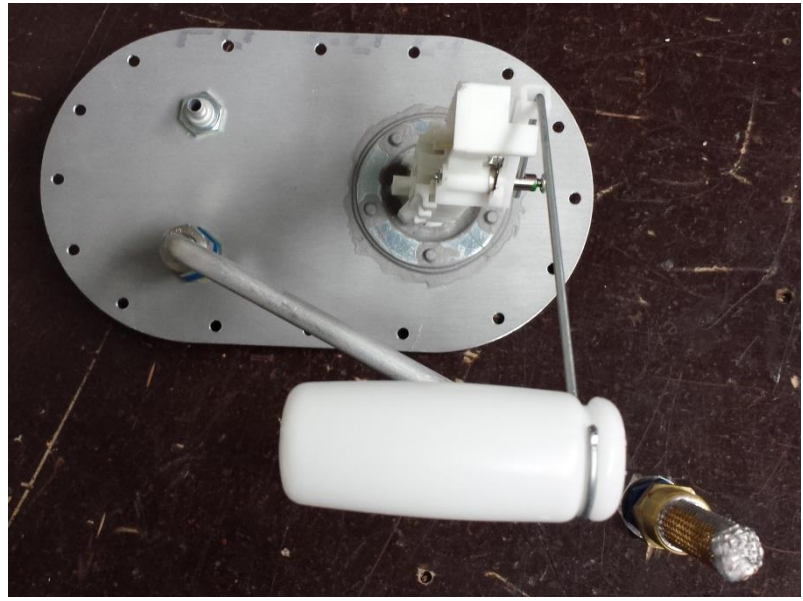

Figure 3: XA42-2820-151 A.04 Gas cap assembly (LH)
4. Remove the old vent tube from the tank cover (P/N XA42-2820-151/-154) (See Figure 3).